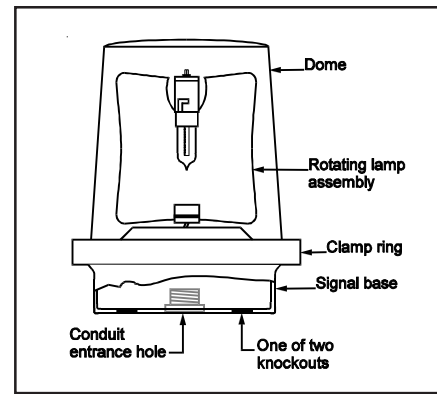

Figure 4. Catalog Series 52 Rotating Lights
**52 Series:** See Figure 4. Remove the screw in the clamp ring, remove the ring, and lift off the dome. Then remove the two screws in the rotating lamp assembly mounting plate, lift the assembly off of the base, and pull the wire leads out of the conduit entrance hole in the base. Proceed to step 2 for installation of the base.
**52 Series:** See Figure 4. Remove the screw in the clamp ring, remove the ring, and lift off the dome. Replace the lamp.